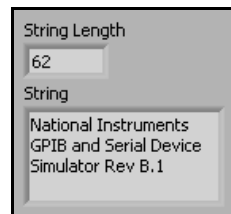

Figure 9-9. IIOASerial VI Front Panel
9. Display the front panel. It should be similar to Figure 9-9.